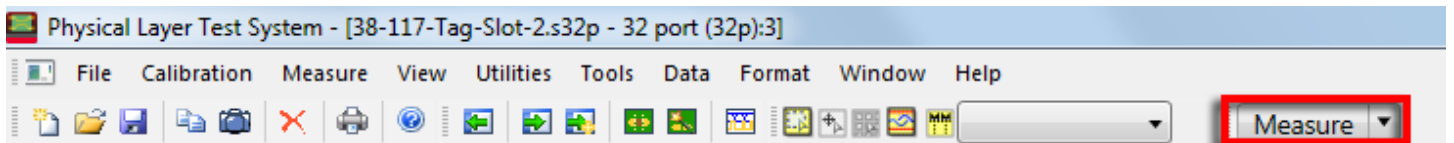

Figure 14 - PLTS toolbar measure
16) Perform next measurement. You do not need to create a new measurement for the next cable. Just swap out the cable and click the measure button on the toolbar as shown in Figure 14.